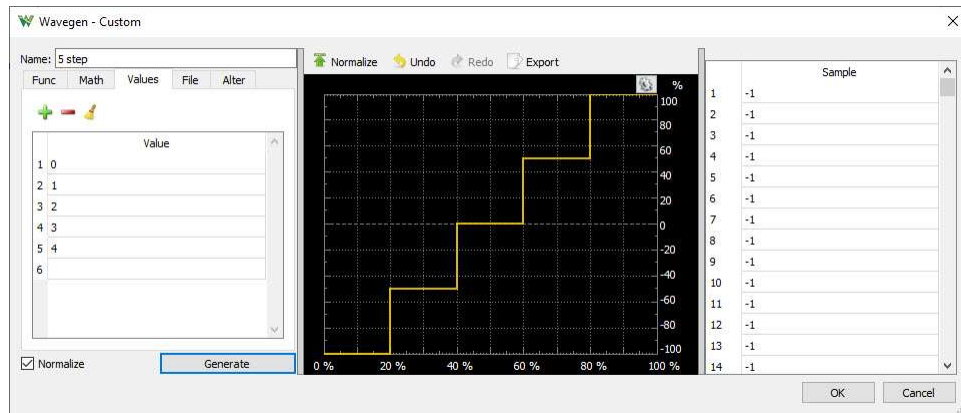

Figure 3.3. A step waveform with five voltage levels.
7. Click Generate. You should get a display similar to Figure 3.3. Note that the bottom level is defined as -100% of the waveform and the top step is defined as +100%. This means that when you define an offset and amplitude for your waveform the minimum level will be the offset minus the amplitude while the maximum level will be the offset plus the amplitude. Click OK.